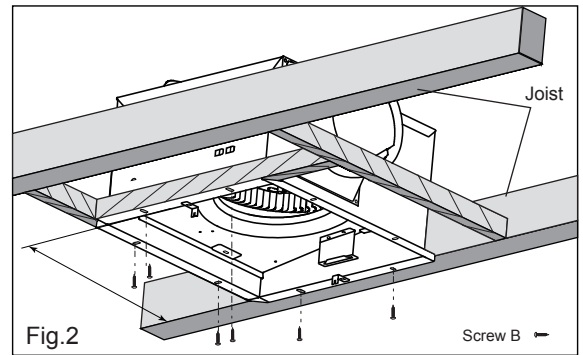

Fig.2
**Fan with ADD on Humidity Sensor and wall switch to manually activate the fan** (The fan and humidity sensor can be operated separately by wall switch . Fig.2 )
Select the appropriate size of the wood is installed between the joists using screw (not included). Hold housing in place so that the housing contacts the bottom of the joist and woods, Screw housing to joist and woods through the hole. (Fig.2)
(Fig.2) Fan with ADD on Humidity Sensor and wall switch to manually activate the fan